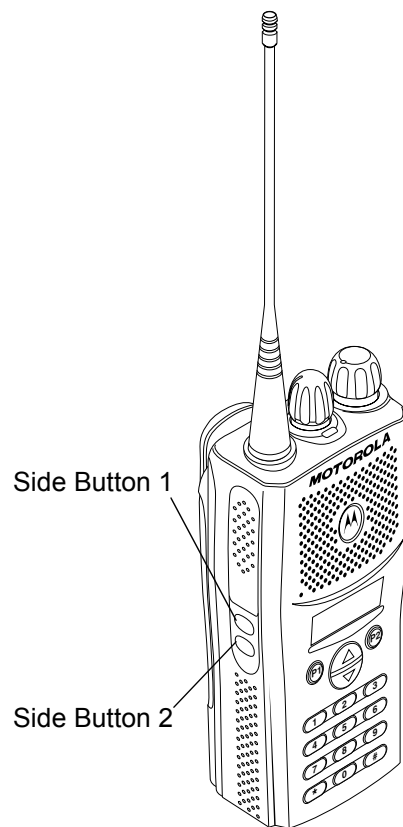

Figure 5-3. Side Button Locations
4. Press and hold the two side buttons at the same time on the source radio and then power up the source radio (Figure 5-3). Both radios produce a “clone-entry” tone.